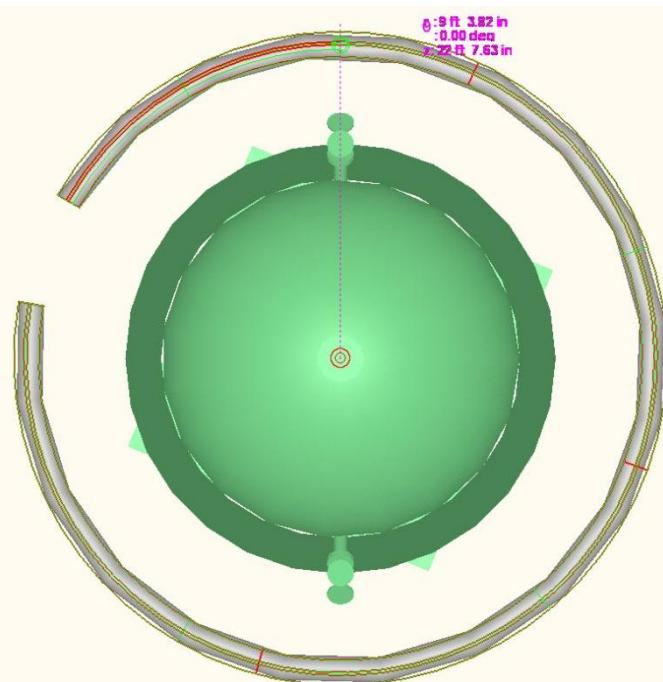

Figure 14. 36: Weldolet Positioning
44. Insert another weldolet where Theta equals 180 degrees. This means keeping the mouse at the South end of the vessel when positioning the weldolet. Use 36-42 as a guideline. Before the weldolet is placed, the graphic display should resemble Figure 14. 37.